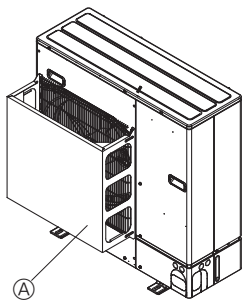

Fig. 2-4
- ② Install an optional air protect guide if the unit is installed in a location where strong winds from a typhoon, etc. may directly enter the air outlet. (Fig. 2-4)